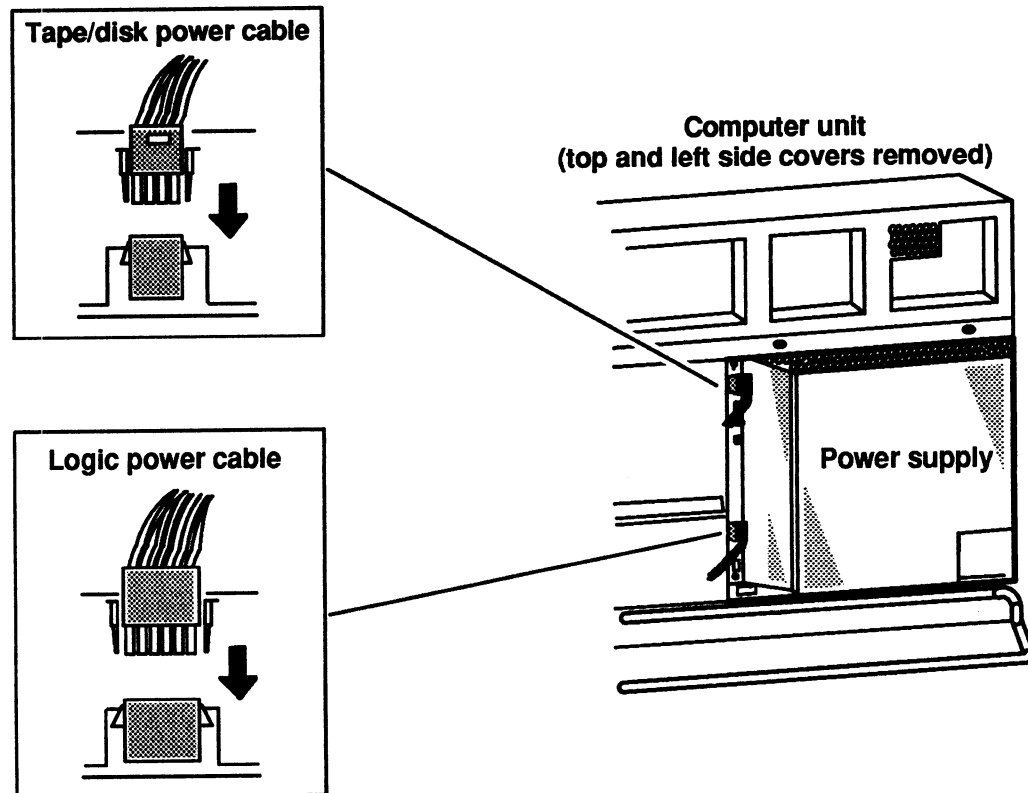

Figure 6-9 Plugging the Tape/Disk Power and Logic Power Cables into the Power Supply
5. Plug the tape/disk power and logic power cables into the power supply as shown in Figure 6-9.